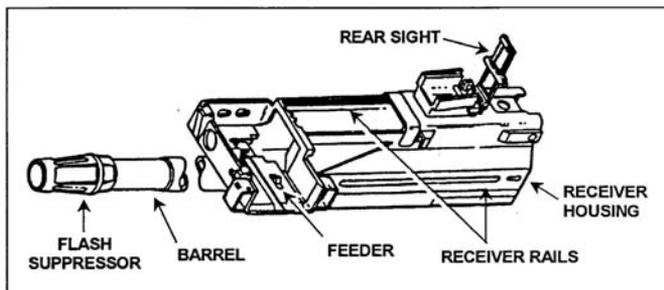

Figure 071-030-0001-15. Receiver assembly
- a. Clean the receiver assembly (figure 071-030-0001-15).
- (3) Wipe all parts dry.
- b. Clean the receiver sear assembly (figure 071-030-0001-14).
- (1) Use only cleaning solvent on a rag or brush.
- (2) Wipe or brush away dirt.
- (3) Wipe dry.